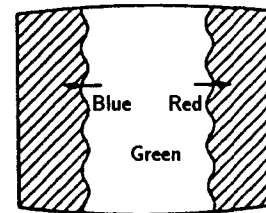

Fig.3
4. Move the deflection yoke backward, and adjust with the purity control so that green is in the center and red and blue are at the sides evenly.(Fig.3)